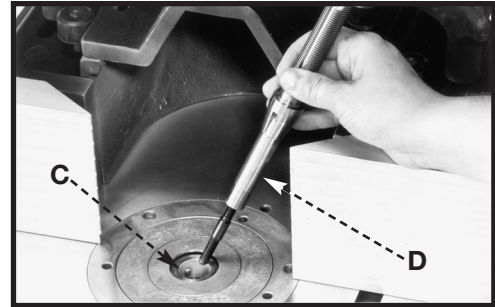

Fig. 11
2. Insert the tie rod and spindle into the spindle cartridge. Line up the pin (C) Fig. 11 with the notch (D) in the spindle.